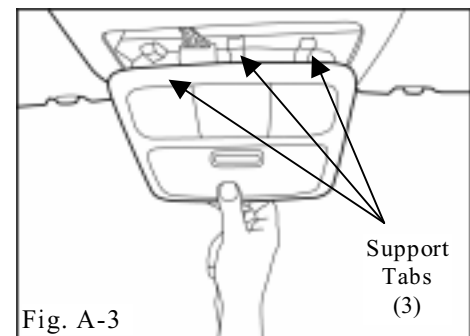

Fig. A-3
3. Slide the overhead console bezel forward to release the three support tabs from rear of bezel from the headliner area. (Fig. A-3)